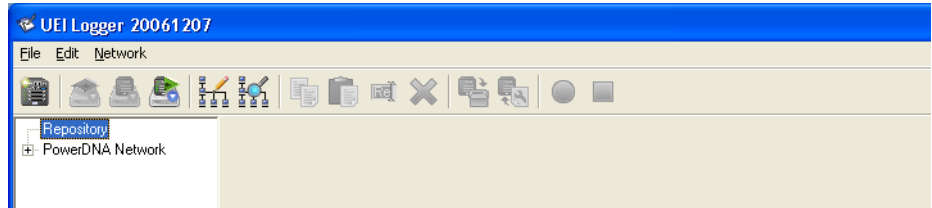

Figure 2-12. UEILogger Initial Screen
STEP 2: On the PC, locate the DNALogger.exe file. Double-click the file to start execution. The screen shown in **Figure 2-12** appears.